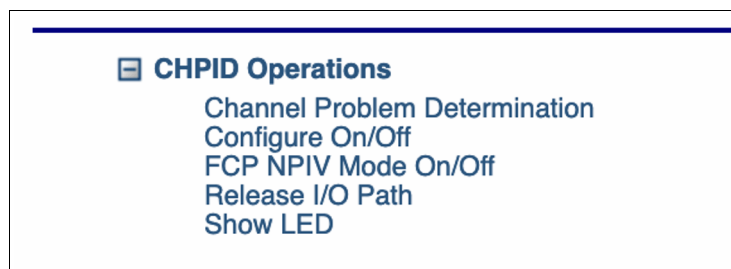

Figure 13 Select Configure On/Off
- With the Channel selected, open the **CHPID Operations** menu in the bottom center pane and select **Configure On/Off** (Figure 13).